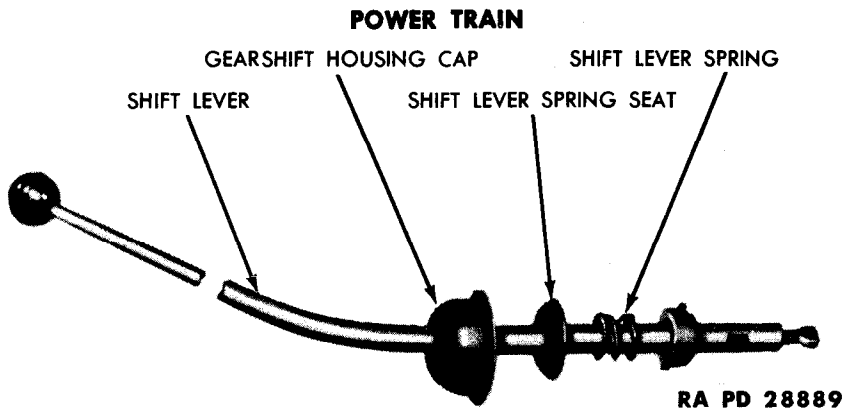

Figure 16 — Transmission Shift Lever
(14) **SHIFT LEVER** (fig. 16). Replace the shift lever if it is excessively worn or bent. Check the gearshift housing cap for stripped threads. Replace the shift lever spring, if it is cracked.